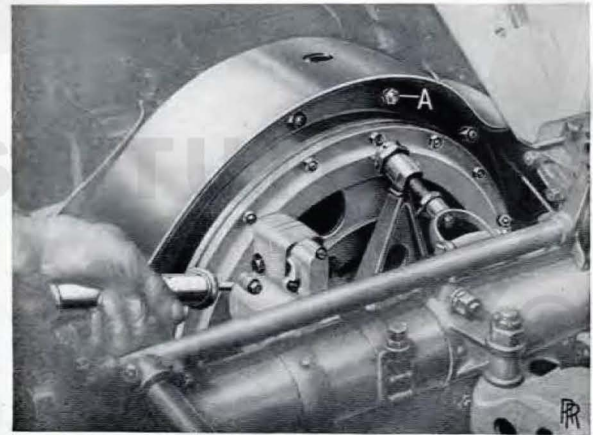

FIG. 8. SHOWING OIL DRAIN AND ALTERNATIVE METHOD OF WITHDRAWING SURPLUS OIL.
Any excess of oil in the clutch may be drained out by removing the plug **A** in the flywheel, or by means of a syringe, as shown in *Fig. 8*.
- (a) Too much oil (which can be drawn out with syringe (Fig. 8) or by removing the special plug in the fly-wheel, and running the engine for a while).